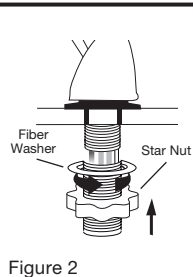

Figure 2
- ☐ From under sink, slide 1-1/2" fiber washer over faucet base. Reinstall threaded extension onto the base until snug. Thread star nut onto extension until snug (See Figure 2).